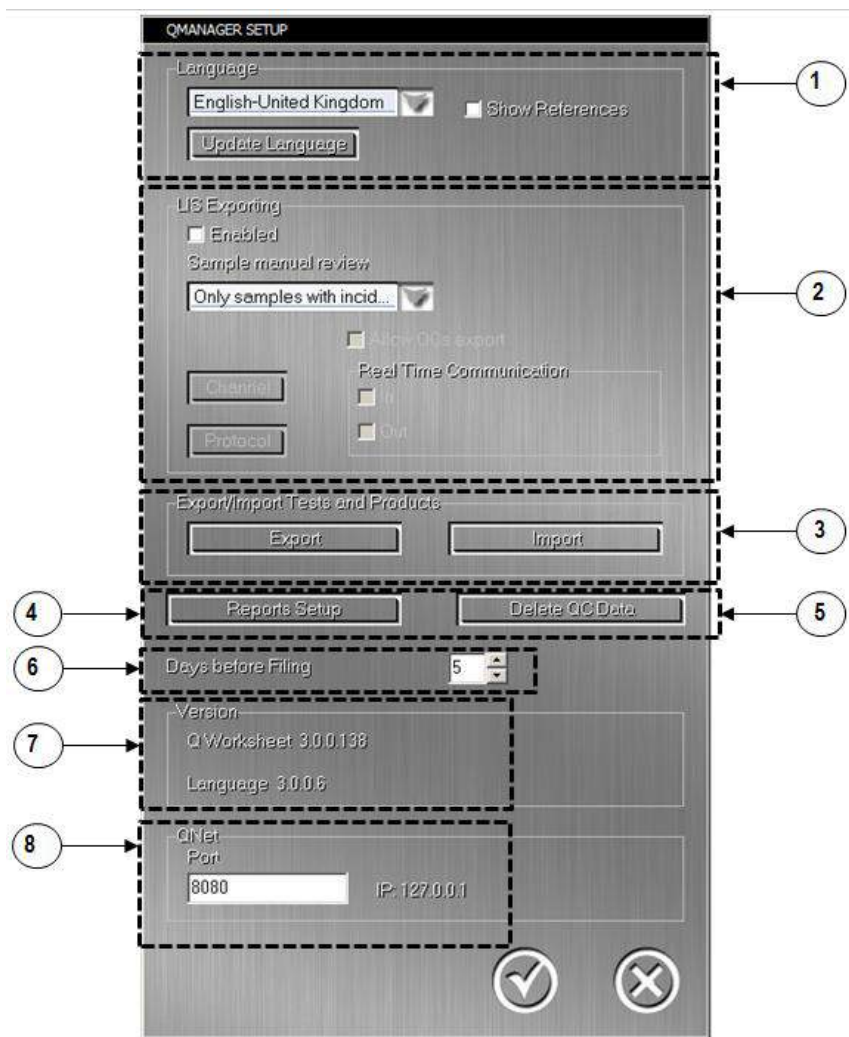

Figure 9.39. QManager Setup Window
- Go to the **Setup** option on the **Other Options** menu  of the **QManager** and press **Import** (Figure 9.39, no. 3).
- Go to the **Setup** option on the **Other Options** menu  of the QManager and press **Import** (Figure 9.39, no. 3).